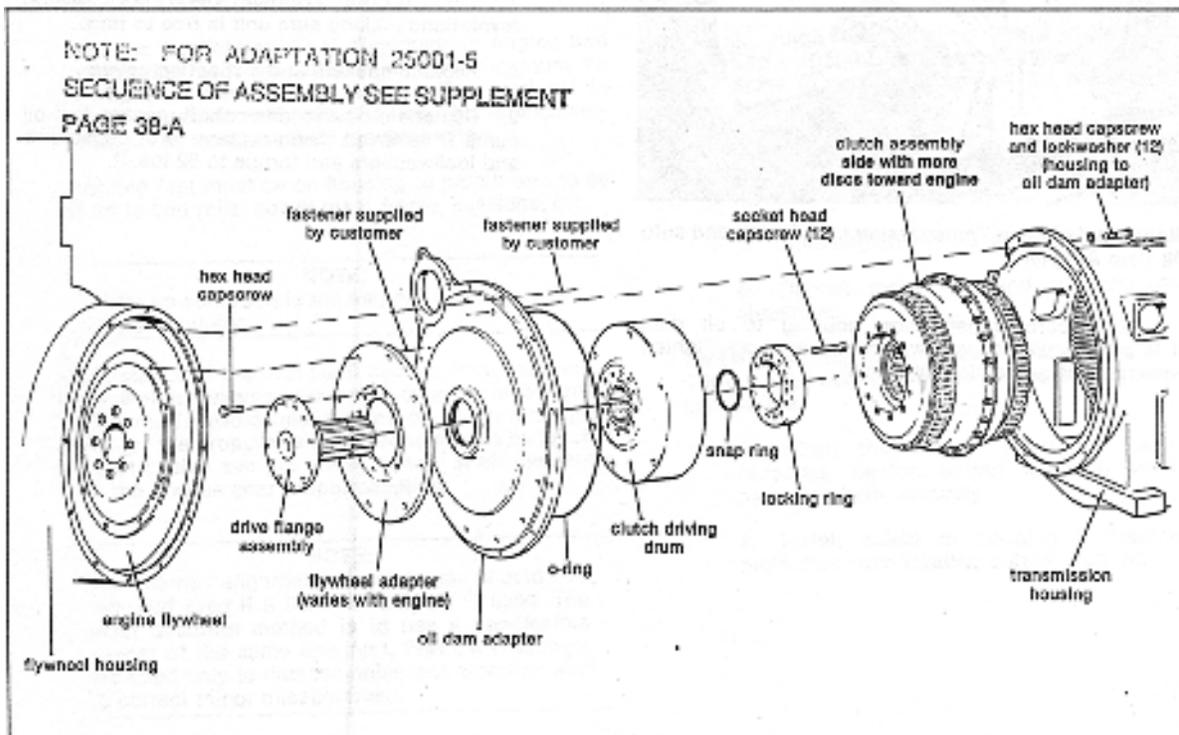

Figure 10. Sequence of Assembly: Adapter Parts, Clutch and Housing.
7. Thoroughly clean flywheel adapter to engine mating surfaces and secure flywheel adapter (and drive flange) to engine flywheel with cap screws and lock washers (not furnished). Refer to figure 10.